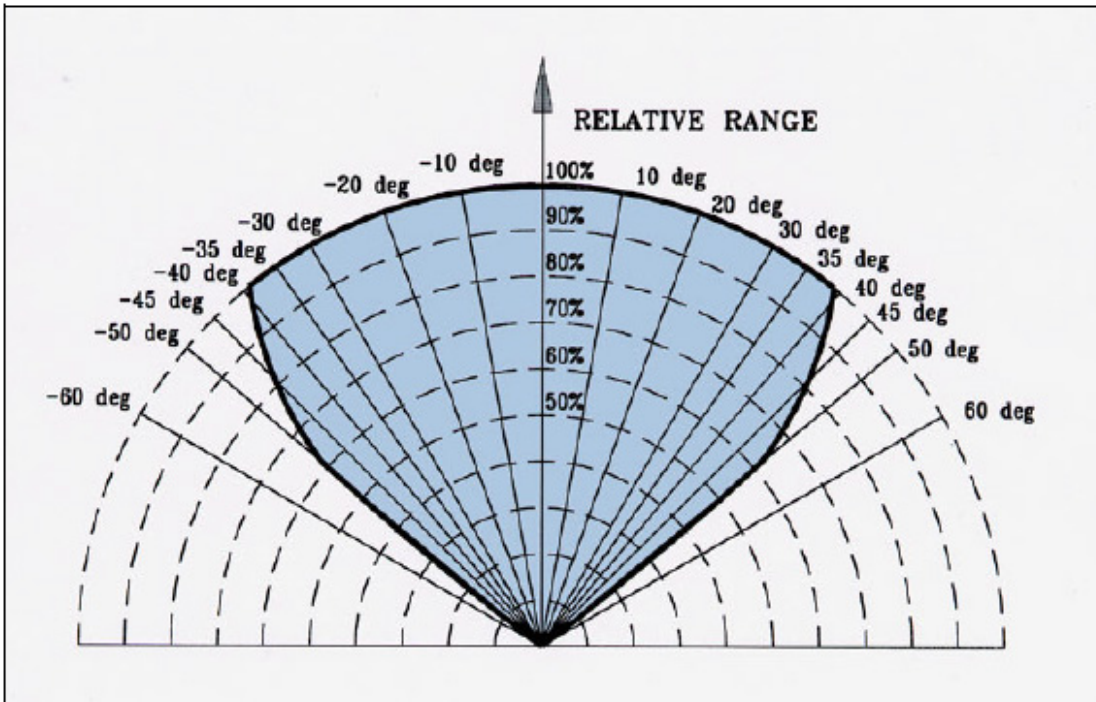

Figure 3: Horizontal and Vertical Fields of View
- **Field of View*:** (*Figure 3*)